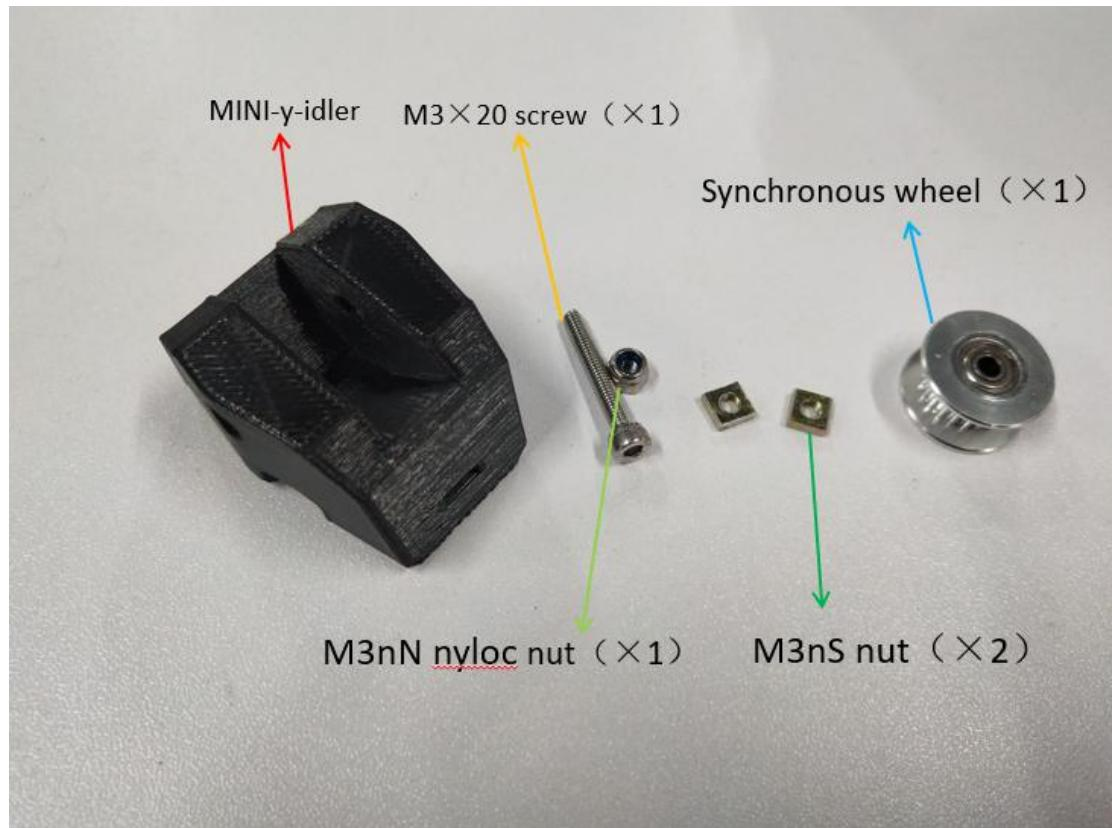

Figure 1.10.1
**Step 1-10-1:** As shown in Figure 1.10.1, prepare the materials and check whether the quantity of materials is correct, and prepare for the next installation.
**Step 1-11-1:** As shown in Figure 1.10.1, prepare the materials and check whether the quantity of materials is correct, prepare for the next installation.